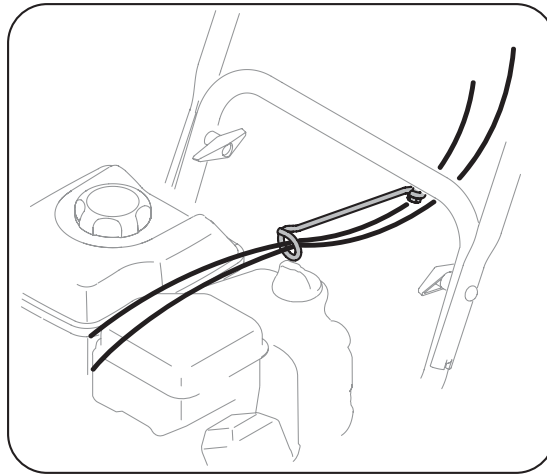

Figure 3-6
- If not already attached, slip the cables that run from the handle panel to the discharge chute into the cable guide located on top of the engine. See Figure 3-6.